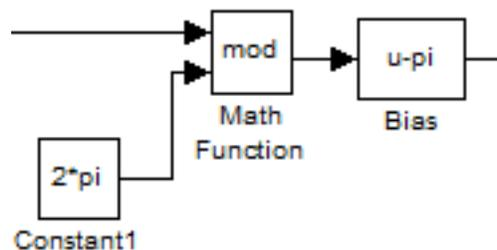

Figure 2.3: Simulink® modulus and bias blocks
6. Add modulus and bias blocks, as shown in Figure 2.3, to measure *inverted pendulum angle*, defined as Equation 1.1.